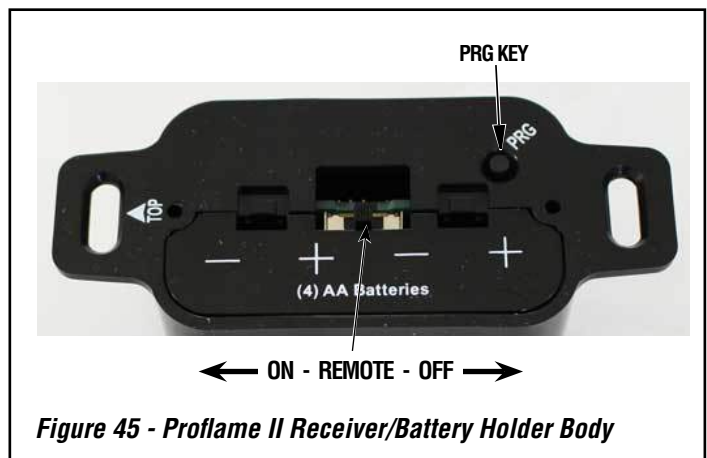

Figure 45 - Proflame II Receiver/Battery Holder Body
Install the 4 AA batteries in the Proflame II receiver/battery holder battery bay. **NOTE:** The polarity of the battery and insert into battery bay as indicated on the cover (+/-). Place the 3 position slider switch in the "Remote" position (**Figure 45**). Insert the end of a paper clip or similar object into the hole marked "PGR" on the receiver front cover (**Figure 45**). The receiver will beep three (3) times to indicate that it is ready to synchronize with a Remote control. Install the 3 AAA type batteries in the Remote control battery bay, located on the base of the Remote control and push the On button. The receiver/battery will "beep" four times to indicate the Remote control's command is accepted and set to the particular code of that Remote control. The system is now initialized.